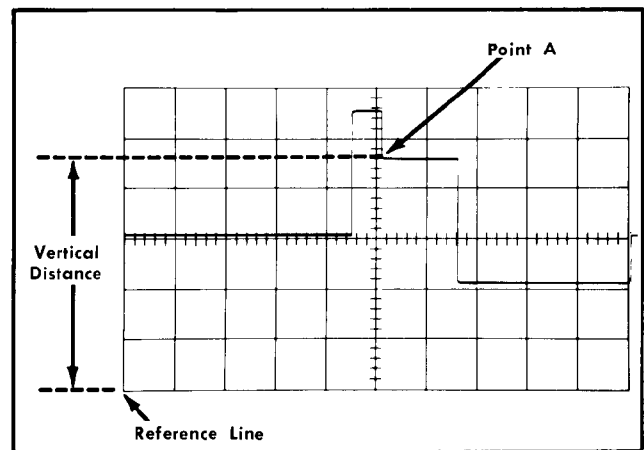

Fig. 2-6. Measuring instantaneous DC voltage with respect to a reference voltage.
9. Measure the distance in divisions between the reference line and the point on the waveform at which the DC level is to be measured. For example, in Fig. 2-6 the measurement is made between the reference line and point A.
Example. Assume that the vertical distance measured is 4.6 divisions (see Fig. 2-6), the waveform is above the reference line, using a 10 $\times$  attenuator probe and a VOLTS/CM switch setting of 2.